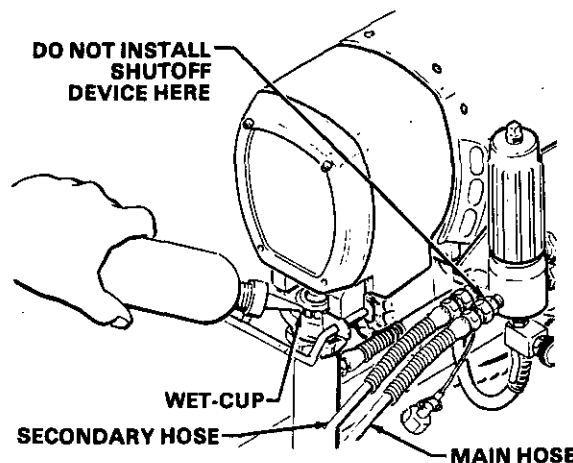

Fig 2
3. Never install any shutoff device between the filter and the main hose. See Fig 2.
3. **Fill Packing Nut/Wet-Cup (See Fig 2.)**